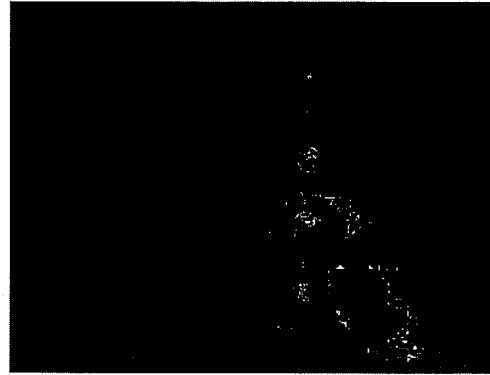

Figure 37
- Remove sight gauge hose from top connector (see figure 37).